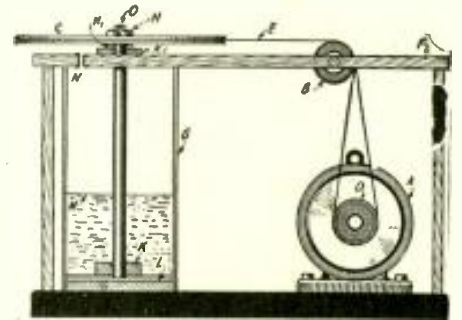

Fig. 3
oil, which should be heavy, such as Transil oil. As for running the switch, two methods are given: One shown in Fig. 3 is with a toy motor. A large thin wooden wheel (C) is fastened on the shaft, and held in place by means of the burrs (H H'). A small pulley (D) is fastened to the shaft of the motor (A) and the belt (E) put on. Idler pulleys (B) are used to direct the belt between the two pulleys. The whole is then placed in a box (F). An air hole (N) should not be omitted. A few dry cells will suffice to run the motor, and the speed can be controlled by means of a small Rheostat. Contributed by "BIX."